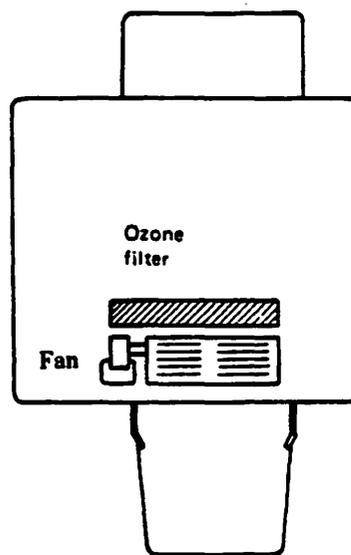

Figure 2-15
2. Locate the ozone filter: it is a grey plastic piece located just above the toner cartridge, between the fan and the red plastic preconditioning exposure window (see Figure 2-15).